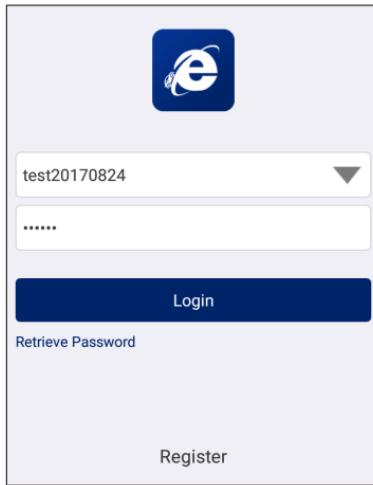

Fig. 4-1
B. If you have registered to be a member, input your name and password, and then tap the “Login” button in Fig. 4-1 to enter the Job Menu directly.
C. If you forgot the password, tap “Retrieve password” in Fig. 4-1 and then follow on-screen instructions to set a new password.